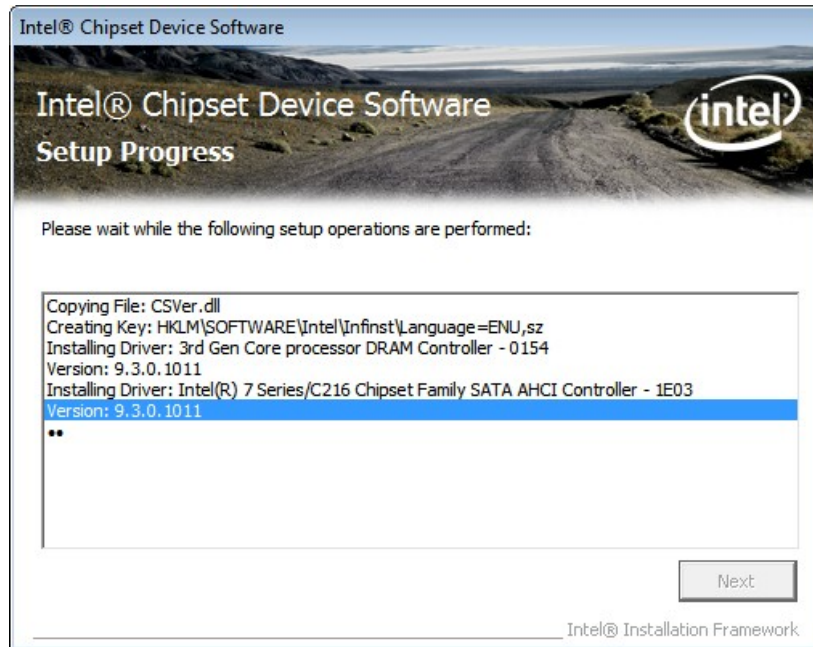

Figure 6-6: Chipset Driver Setup Operations
Step 11: **Setup Operations** are performed as shown in **Figure 6-6**.